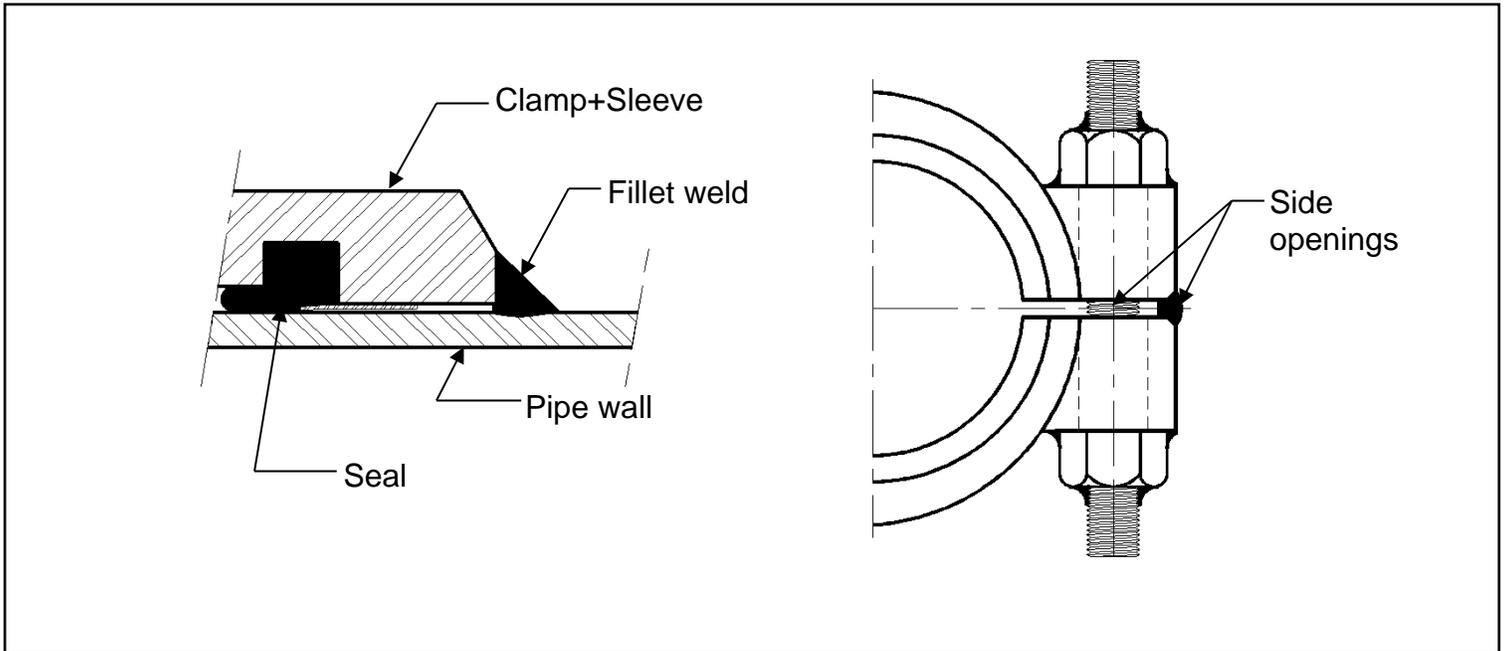

Figure 12
1. Fillet weld ends to pipe. (See Figure 12)